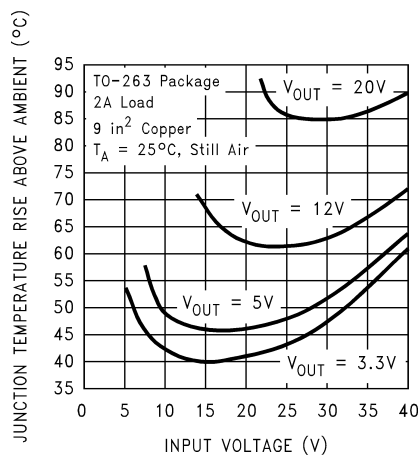

Figure 38. Junction Temperature Rise, TO-263
The LM2593HV is available in two packages, a 5-pin TO-220 (T) and a 5-pin surface-mount TO-263 (S). The TO-220 package needs a heat sink under most conditions. The size of the heat sink depends on the input voltage, the output voltage, the load current, and the ambient temperature. Higher ambient temperatures require more heat sinking. The TO-263 surface-mount package tab is designed to be soldered to the copper on a printed-circuit board. The copper and the board are the heat sink for this package and the other heat-producing components, such as the catch diode and inductor. The PCB copper area that the package is soldered to must be at least 0.4 in², and ideally must have 2 or more square inches of 2-oz. (0.0028 in) copper. Additional copper area improves the thermal characteristics, but with copper areas greater than approximately 6 in², only small improvements in heat dissipation are realized. If further thermal improvements are needed, double-sided, multilayer PCB with large copper areas or airflow are recommended. The curves shown in Figure 38 show the LM2593HVS (TO-263 package) junction temperature rise above ambient temperature with a 2-A load for various input and output voltages. This data was taken with the circuit operating as a buck switching regulator with all components mounted on a PCB to simulate the junction temperature under actual operating conditions. This curve can be used for a quick check for the approximate junction temperature for various conditions, but be aware that there are many factors that can affect the junction temperature. When load currents higher than 2 A are used, double-sided or multilayer PCBs with large copper areas or airflow might be required, especially for high ambient temperatures and high output voltages. For the best thermal performance, wide copper traces and generous amounts of printed-circuit board copper must be used in the board layout. (One exception to this is the output (switch) pin, which must not have large areas of copper.) Large areas of copper provide the best transfer of heat (lower thermal resistance) to the surrounding air, and moving air lowers the thermal resistance even further. Package thermal resistance and junction temperature rise numbers are all approximate, and there are many factors that affect these numbers. Some of these factors include board size, shape, thickness, position, location, and even board temperature. Other factors are, trace width, total printed-circuit copper area, copper thickness, single- or double-sided, multilayer board, and the amount of solder on the board. The effectiveness of the PCB to dissipate heat also depends on the size, quantity, and spacing of other components on the board, as well as whether the surrounding air is still or moving. Furthermore, some of these components, such as the catch diode will add heat to the PCB and the heat can vary as the input voltage changes. For the inductor, depending on the physical size, type of core material, and the DC resistance, it could either act as a heat sink taking heat away from the board, or it could add heat to the board.